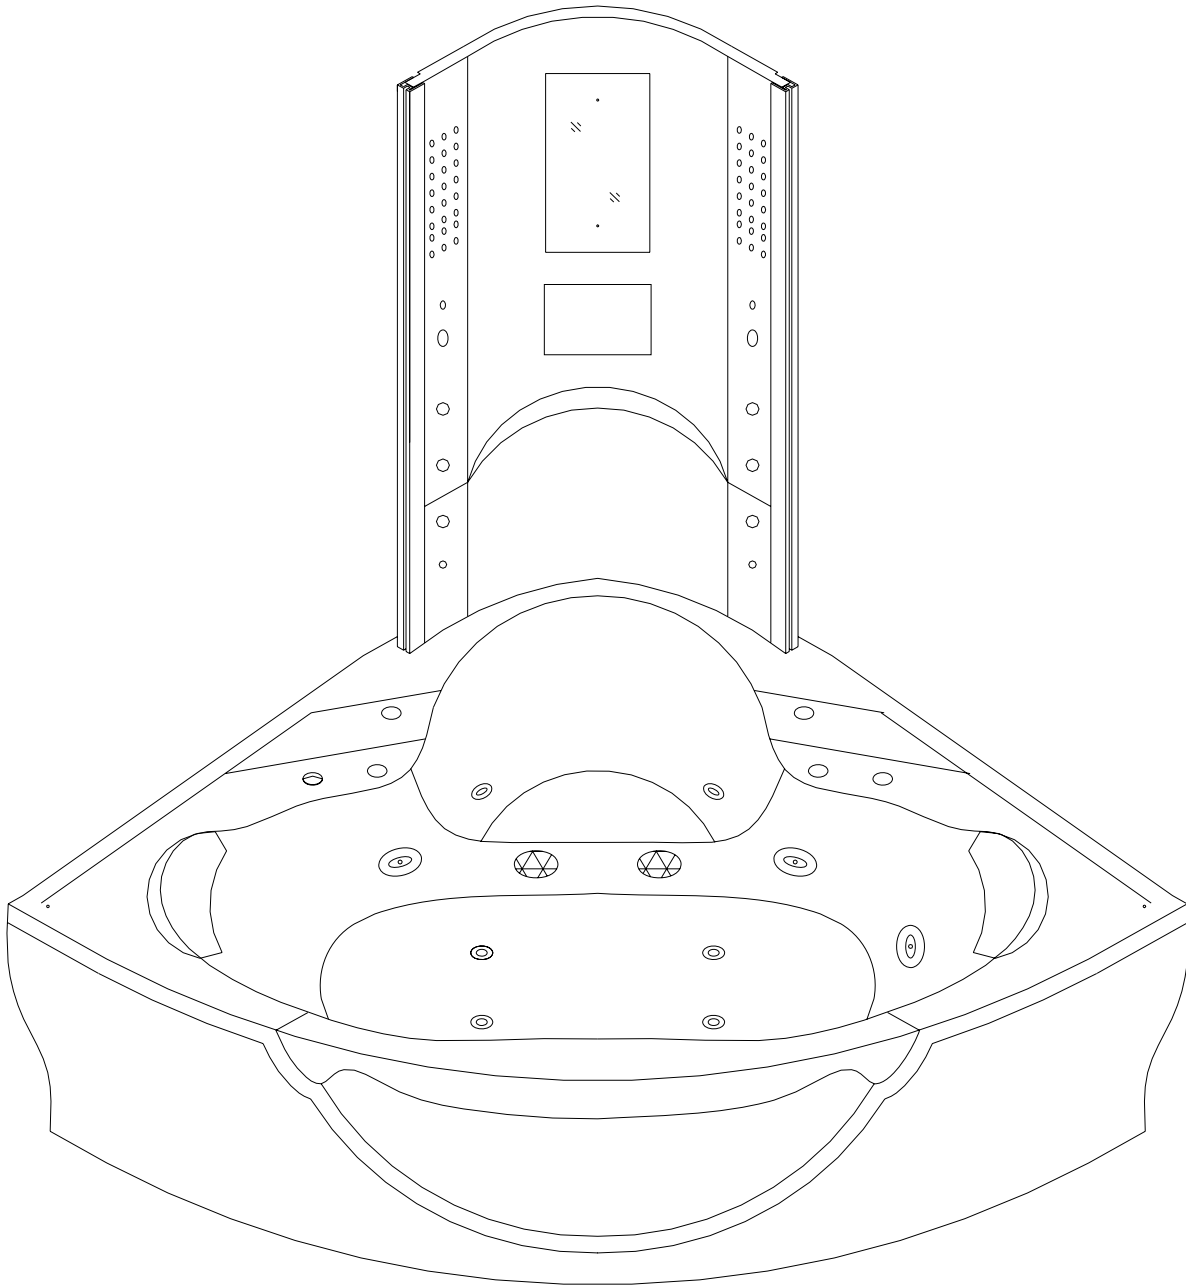

Fig. 4
3. Install the mid-wallboard---use 4-5 sets of M6×30 bolts to pull on the holes in the back of the mid-wallboard, make the mid-wallboard connect to the tub. (As the Fig.4)